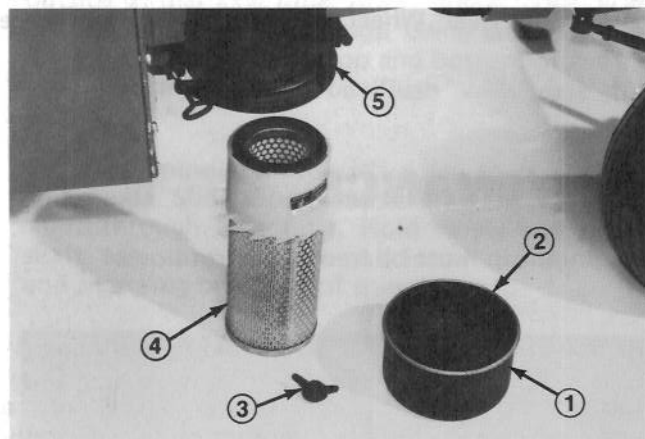

Figure 54
2. Remove wing nut w/gasket and slide filter element out of air cleaner body (Fig. 54).